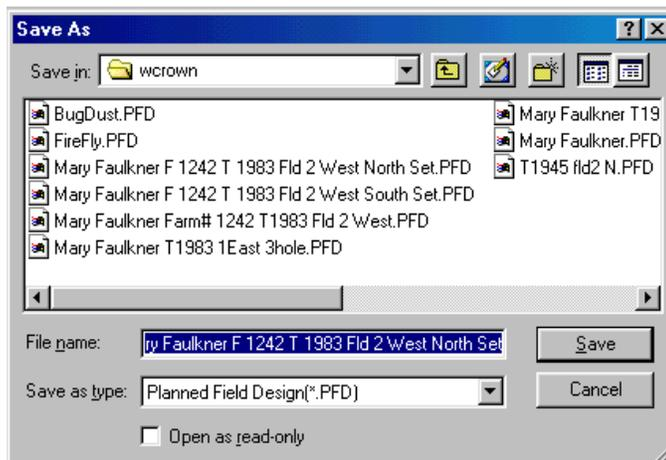

Figure 7 - Save As dialog
**File -> Save As:** Select this option to enter detailed file names (fig. 7). This dialog box allows you to enter an extended name to clearly identify the file.